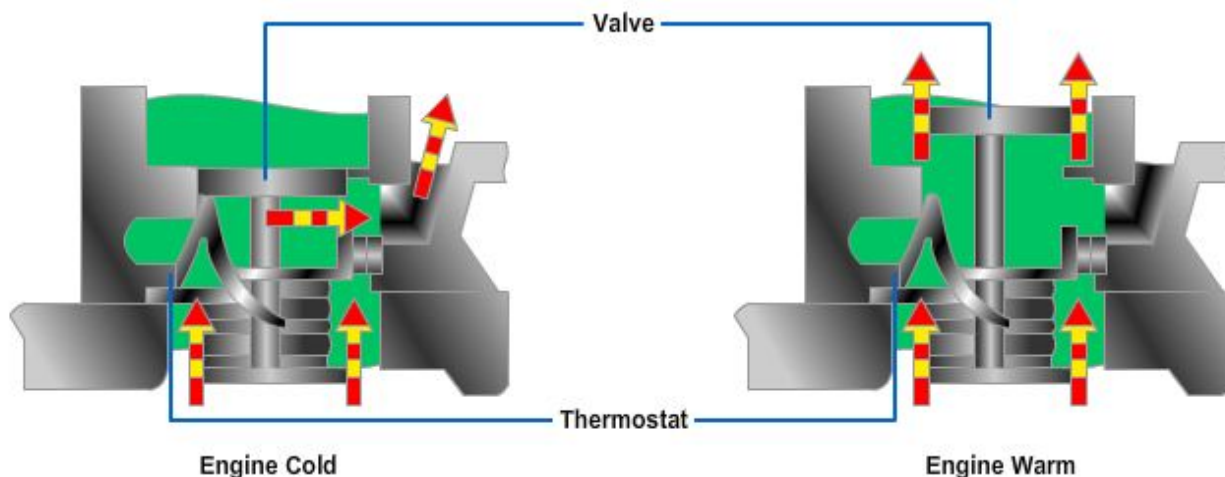

Figure 6-7 — Bypass Thermostat.
- Another bypass system has a blocking-bypass thermostat (*Figure 6-7*). This thermostat operates as previously described, but it also has a secondary, or bypass, valve. When the thermostat valve is closed, the circulation to the radiator is shut off. However, when the bypass valve is open, coolant is allowed to circulate through the bypass. As the thermostat valve opens, coolant flows into the radiator and the bypass valve closes.